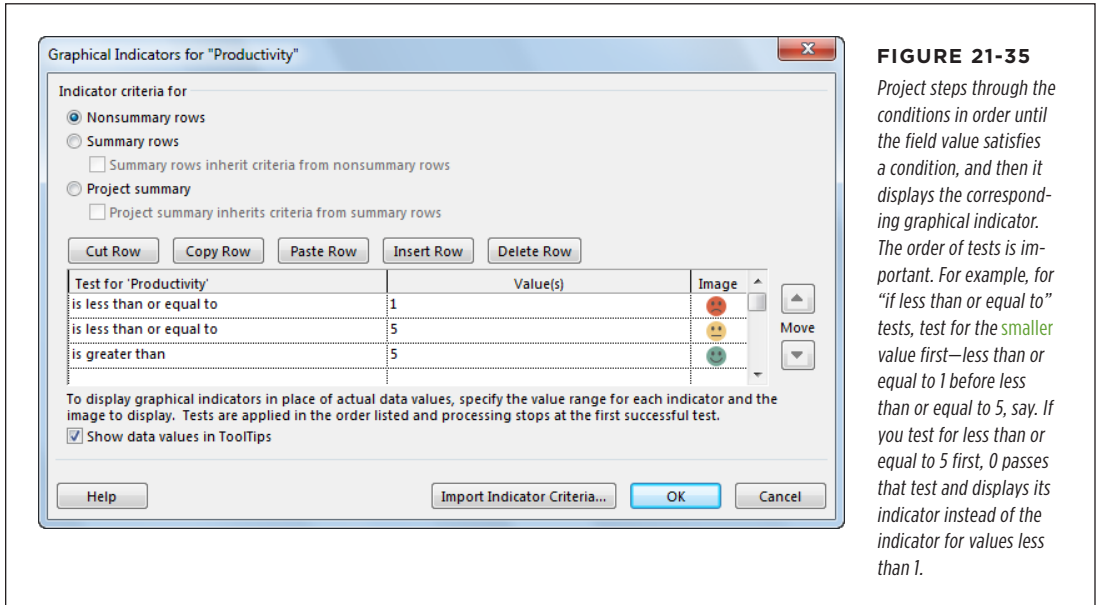

FIGURE 21-35
5. In the Image cell, click the down arrow, and then choose the graphic you want Project to display when the condition is true, as shown in Figure 21-35.